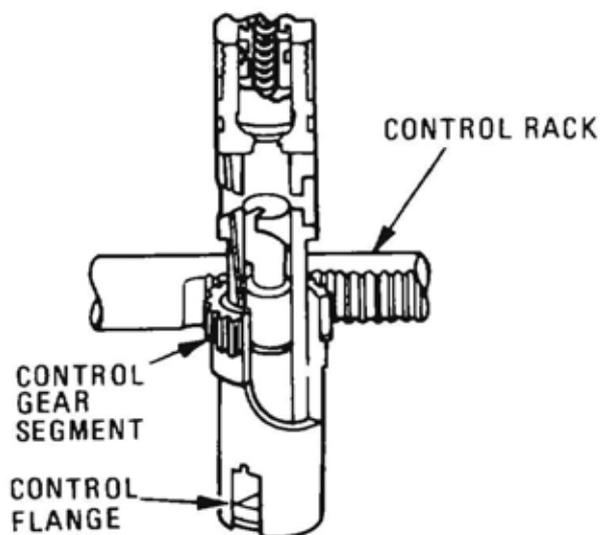

Figure 23 Fuel Mating Control
38. The plunger is rotated by a control rack that runs the length of the injection pump (Figure 23). It meshes with control gear segments mounted on control sleeves fitted over each barrel. These sleeves fit over flanges on the bottom of the plungers. With this arrangement, all of the plungers are rotated simultaneously.